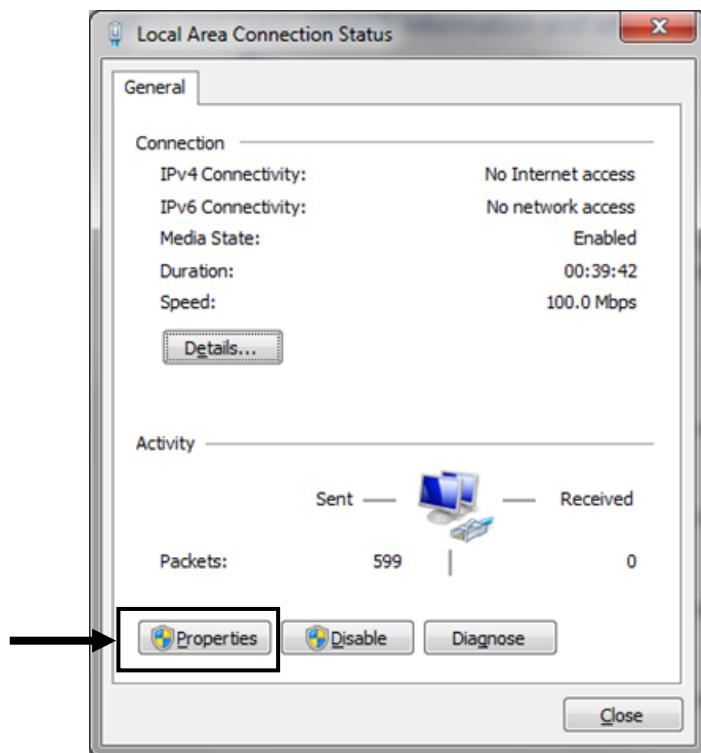

Fig 91. “Properties” Button
4. Click the “Properties” button (Fig 91). This will allow you to set the properties of the network adapter.